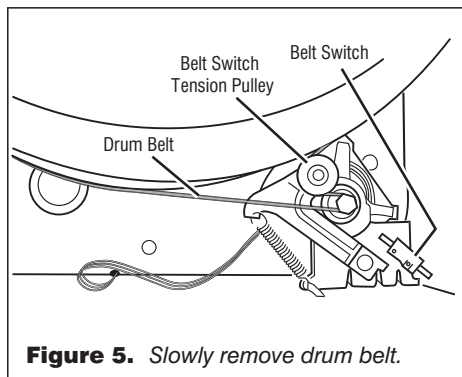

Figure 5. Slowly remove drum belt.
5. Check the belt switch and drive motor. Access the belt switch and drive motor by removing the front panel/drum assembly. See Removing the Front Panel/Drum Assembly, page 11. Slowly remove the drum belt from the spring-loaded belt switch tension pulley, gently letting the pulley down. See figure 5.